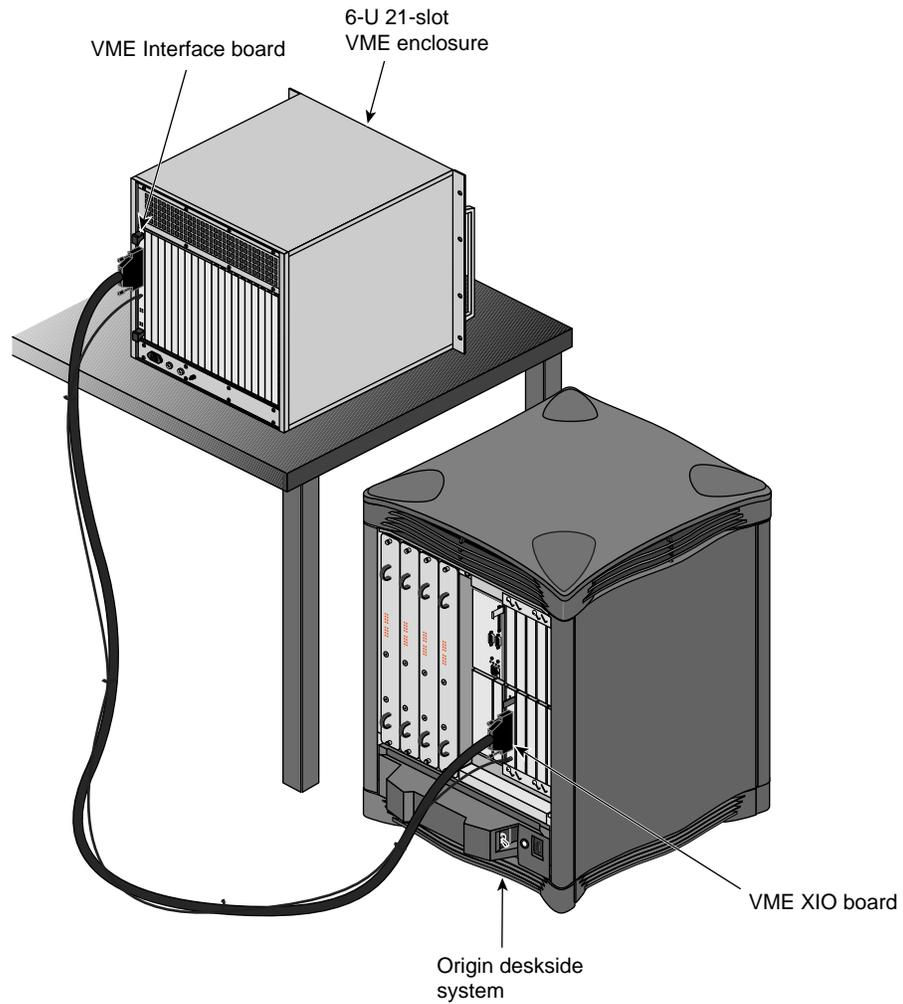

Figure 13-2 VME Bus Enclosure and Cable to an Origin2000 Deskside
In the Origin2000 (including Origin Deskside) and Onyx2 systems, external I/O is provided through the XIO interface. The VME bus and adapter is an external I/O device interfaced through one XIO slot. A typical installation is shown in Figure 13-2.
2. The XIO interface passes the word down the Craylink cable (see Figure 13-2) to the VME controller board, which is a VME 6U or 9U card mounted in the card cage.